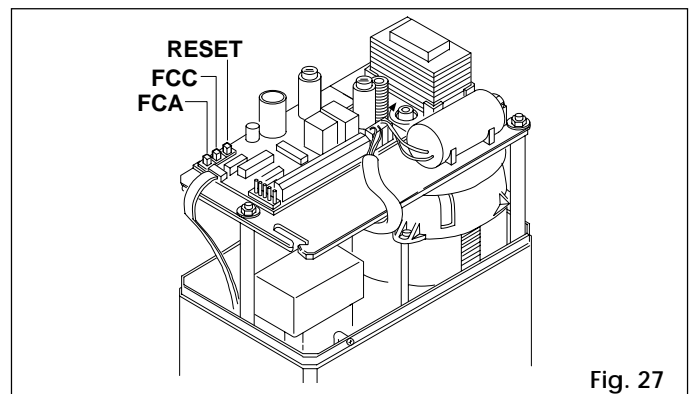

Fig. 27
- 7) Without moving the gate carry out the following operations on the 826 MPS control unit (Fig. 27) in the stated order:
- 9) Without moving the gate carry out the following operations on the 826 MPS control unit (fig. 27) in the stated order: